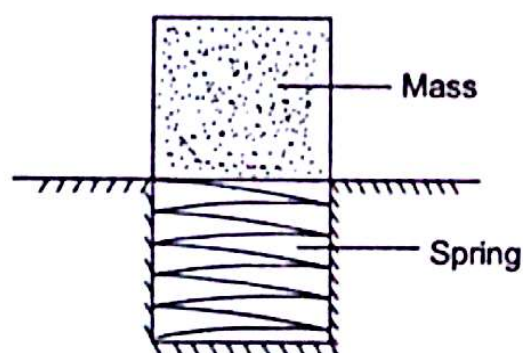

Fig. 19.22
19.10 An ejector mechanism consists of a helical compression spring having a spring constant of $K = 981 \times 10^3 \text{ N/m}$. It is pre-compressed by 100 mm from its free state. If it is used to eject a mass of 100 kg held on it, the mass will move up through a distance of (Fig. 19.22)